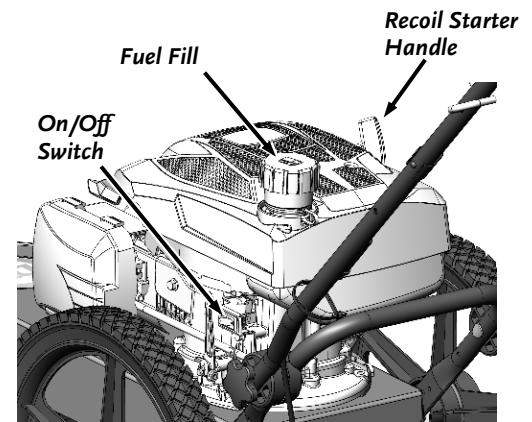

Figure 13B
1. Switch the ON/OFF Switch to the "ON" position (**Figure 13B**).